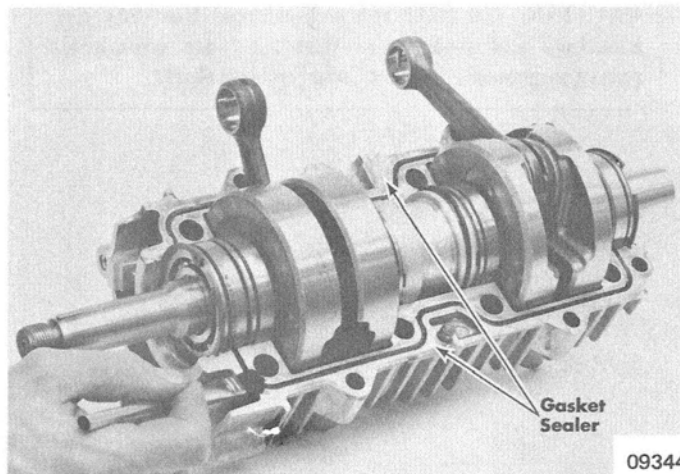

Figure 3. Applying Crankcase Sealer
11. Apply a THIN coat of Gasket Sealer (C-92-72592-1) to crankcase halves. (Figure 3)